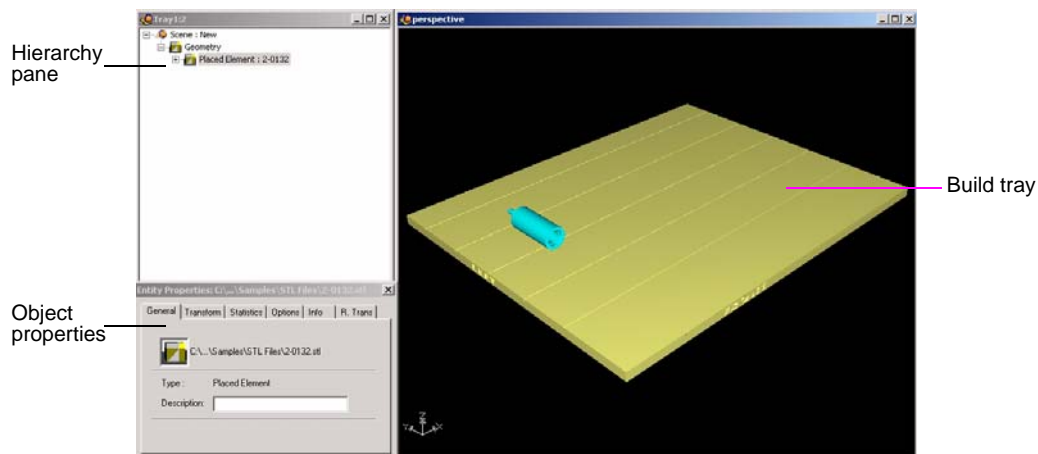

Figure 5-5: Default screen layout
The default screen layout displays the *perspective* view of the build tray and the tray hierarchy pane, which lists the elements placed on the tray (see figure 5-5 on page 4). You can view models from different angles by changing the screen layout.
- ☐ 2 Views is the default screen layout, already displayed (see figure 5-5 on page 4).